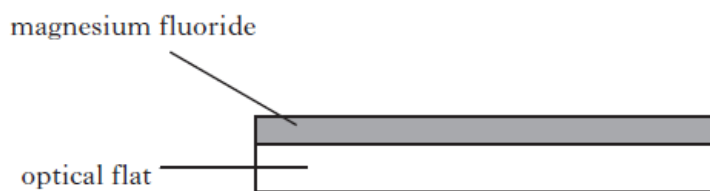

Figure 8D
- (c) Good quality optical flats often have a non-reflecting coating of magnesium fluoride applied to the surface as shown in Figure 8D.